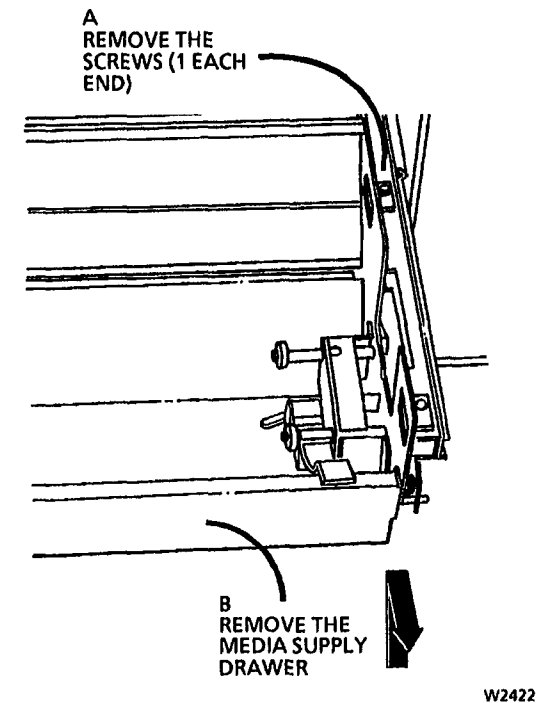

Figure 2. Removing the Media Supply Drawer
2. (Figure 2): Remove the Media Supply Drawer.